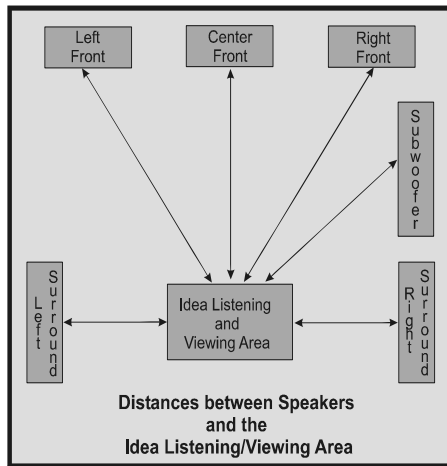

Figure 10
3. Measure the distance from the Listening/Viewing area to each of the loudspeakers. Refer to Figure 10.